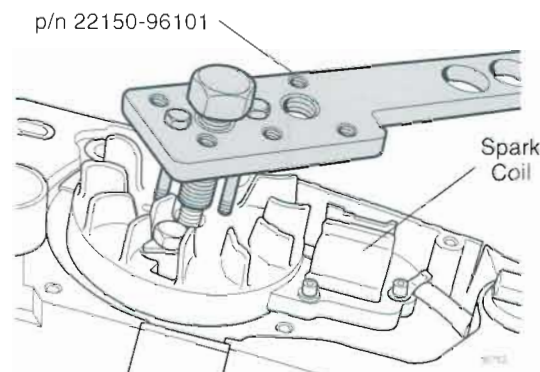

Figure 13.10 Removing the Flywheel
STEP 3. Use Shindaiwa puller p/n 22150-96101 to remove the flywheel assembly from the crankshaft (Figure 13.10).